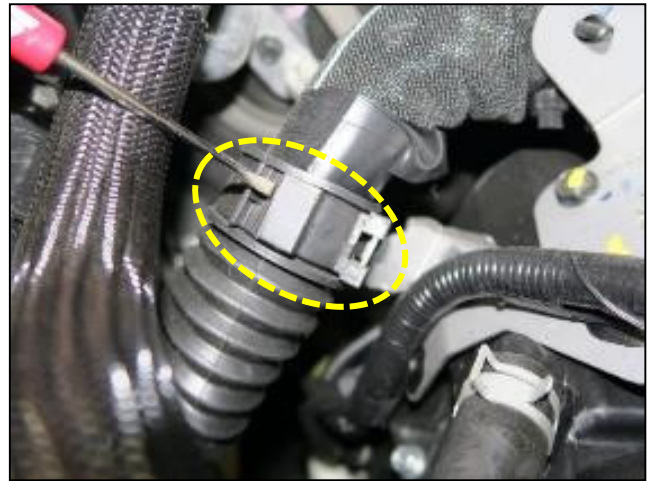

Figure 5
5. Remove the EGI harness from the harness retainer clip as shown in Figure 5.